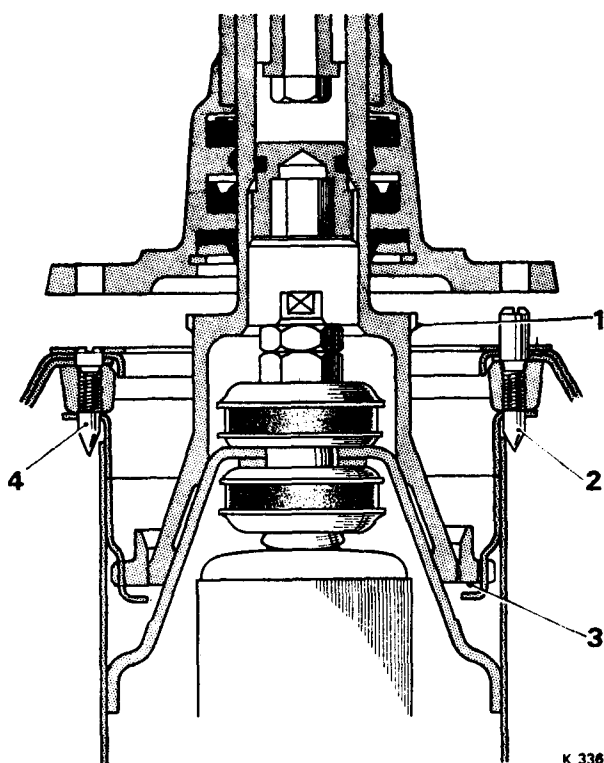

FIG. G36 SECTIONAL VIEW—EARLY LOCKING ARRANGEMENT—REAR RAM PISTON TO ROAD SPRING ISOLATOR
Figure G36 shows the method used on early saloon cars to secure the rear height control ram piston to the road spring/shock damper isolator.
1. Insert the special pointed location dowels (RH 7858—2 off and RH 7859—1 off) into the tapping ring in the top of the spring pot. Ensure that the pointed ends locate in the holes in the spring isolator locating flange and that the threaded portions of the screws do not protrude below the bosses in the spring pot tapping ring (see Fig. G36).